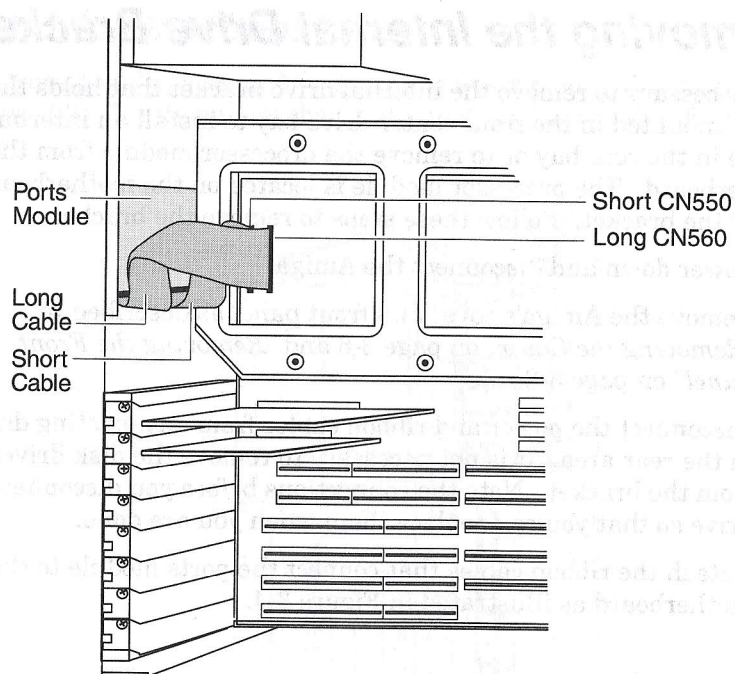

Figure 3-4. Disconnecting the Ports Module Cables
4. Detach the ribbon cables that connect the ports module to the motherboard as illustrated in Figure 3-4.